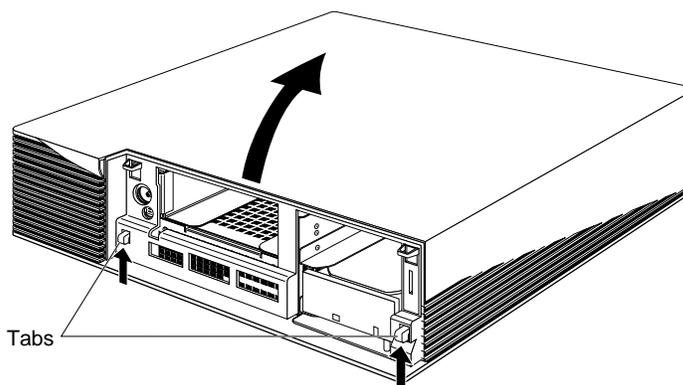

Figure 2 Removing the Top Cover From the Indigo² Chassis
- Rotate the cover back and away from the chassis, as shown in Figure 2.